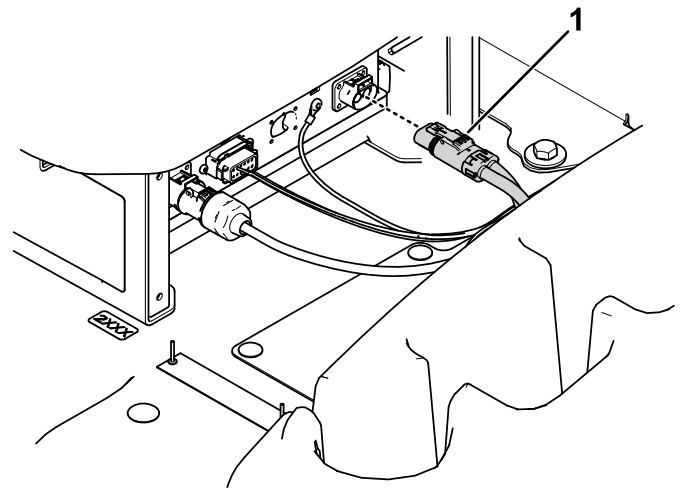

Figure 15
3. Remove the DC power connector from the charger (Figure 15).
2. Install the DC power connector to the charger (Figure 15).